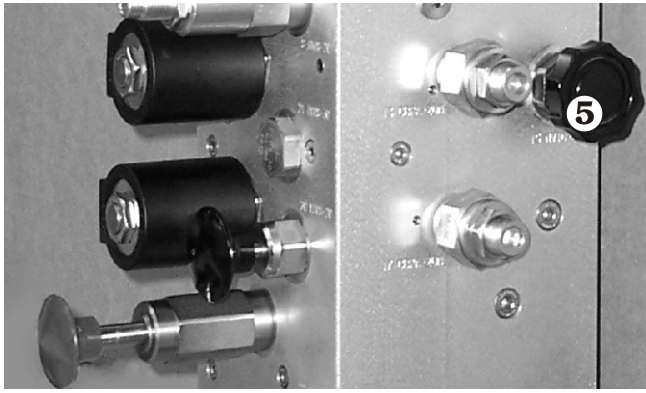

Figure 9.9
3. Inside the hydraulic compartment, open the free-wheeling valve ⑤ by turning counterclockwise until knob stops. (see Figure 9.9).